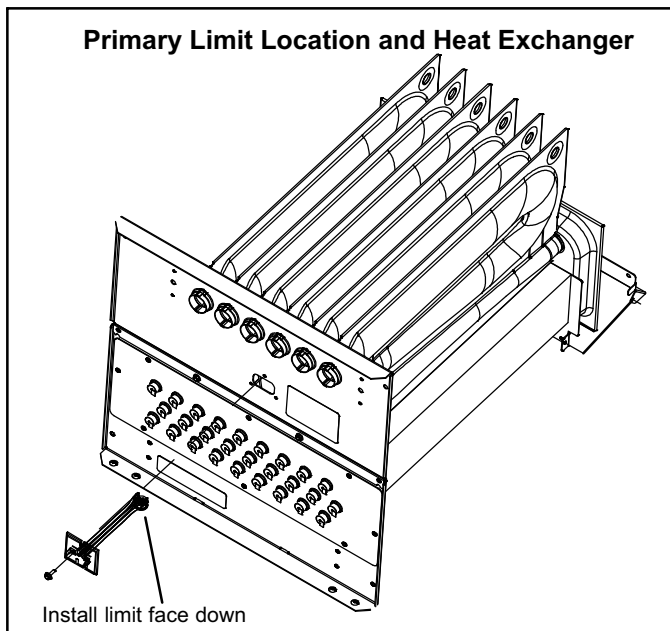

FIGURE 12
2. Primary Limit Control (Figure 12)
4. Heat Exchanger (Figure 12)